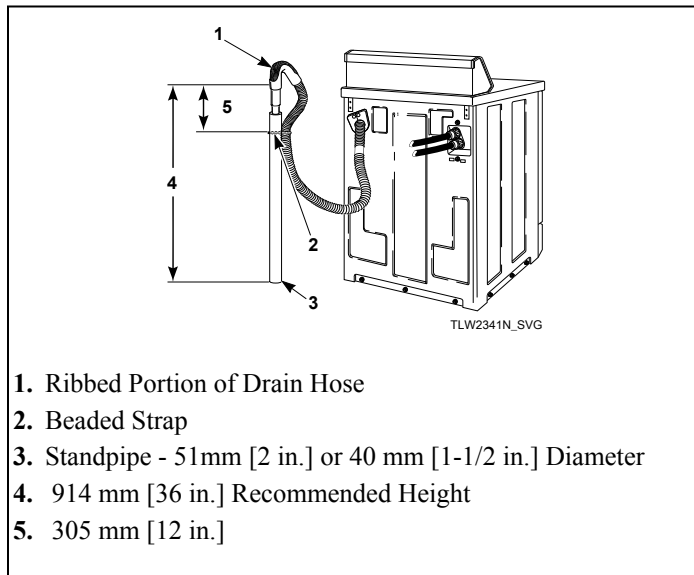

Figure 5
4. Remove the beaded strap from accessories bag and place around standpipe and drain hose, approximately 300 mm [12 inches] down from the top of pipe. Refer to *Figure 5*.